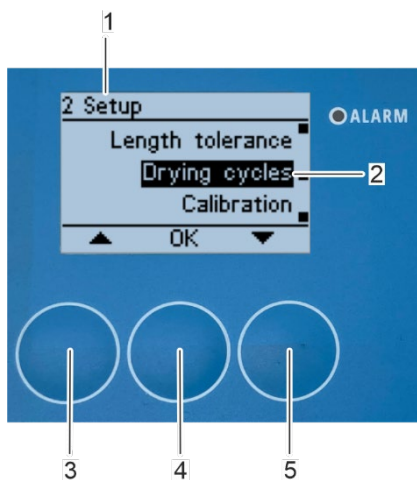

Fig. 136: Open submenu "drying cycles"
⇒ The "2 Setup" submenu appears on the display again (Fig. 136/1).
1. Select the "Drying cycles" submenu (Fig. 136//2) with the arrow keys [up] (Fig. 136//3) and [down] (Fig. 136//5) in submenu "2 Setup" (Fig. 136//1).
2. Confirm the selection with [OK] (Fig. 136//4).